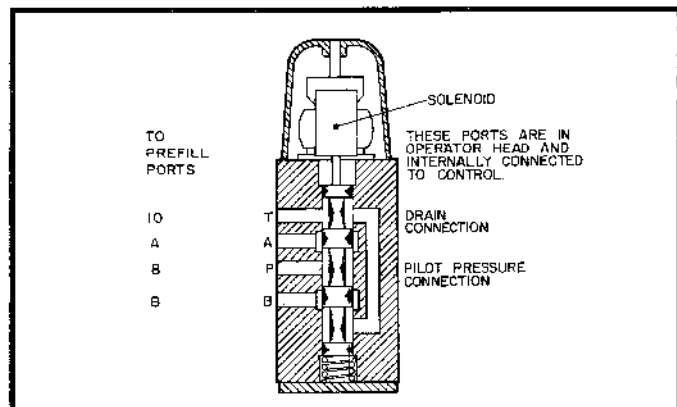

Figure 5. Type "C" Solenoid Control (508737D).
2. Solenoid Control. Refer to figures 5, 2 and 3. A solenoid operated four-way valve directs pilot fluid and pressure (up to 5000 psi 345 bar) to open or close the prefill as commanded by an electrical signal. Some valves may be equipped to meter flow to Port "A" or "B" and thus control prefill valve operation speed.